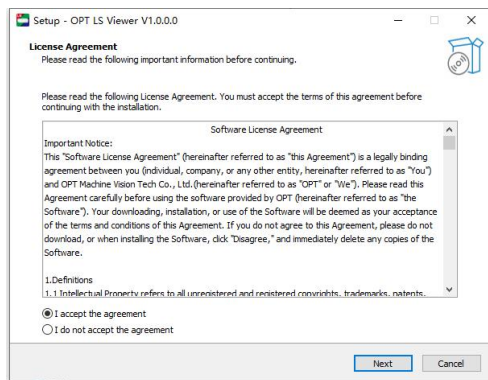

Figure 1.1.4 Installing software
3、Start installing the "OPT LS Viewer_V1.00_Setup" application, click on the "I agree to this agreement" option, as shown in Figure 1.1.4.